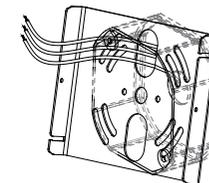

Figure 2
- 2.Pierce the wire from the bracket hole, fix the bracket on the junction box with screws. (Figure 2)